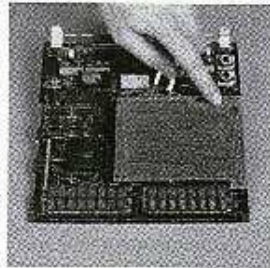

Figure 3-22
- d. Plug the host connector card into the main logic board. See Figure 3-22.